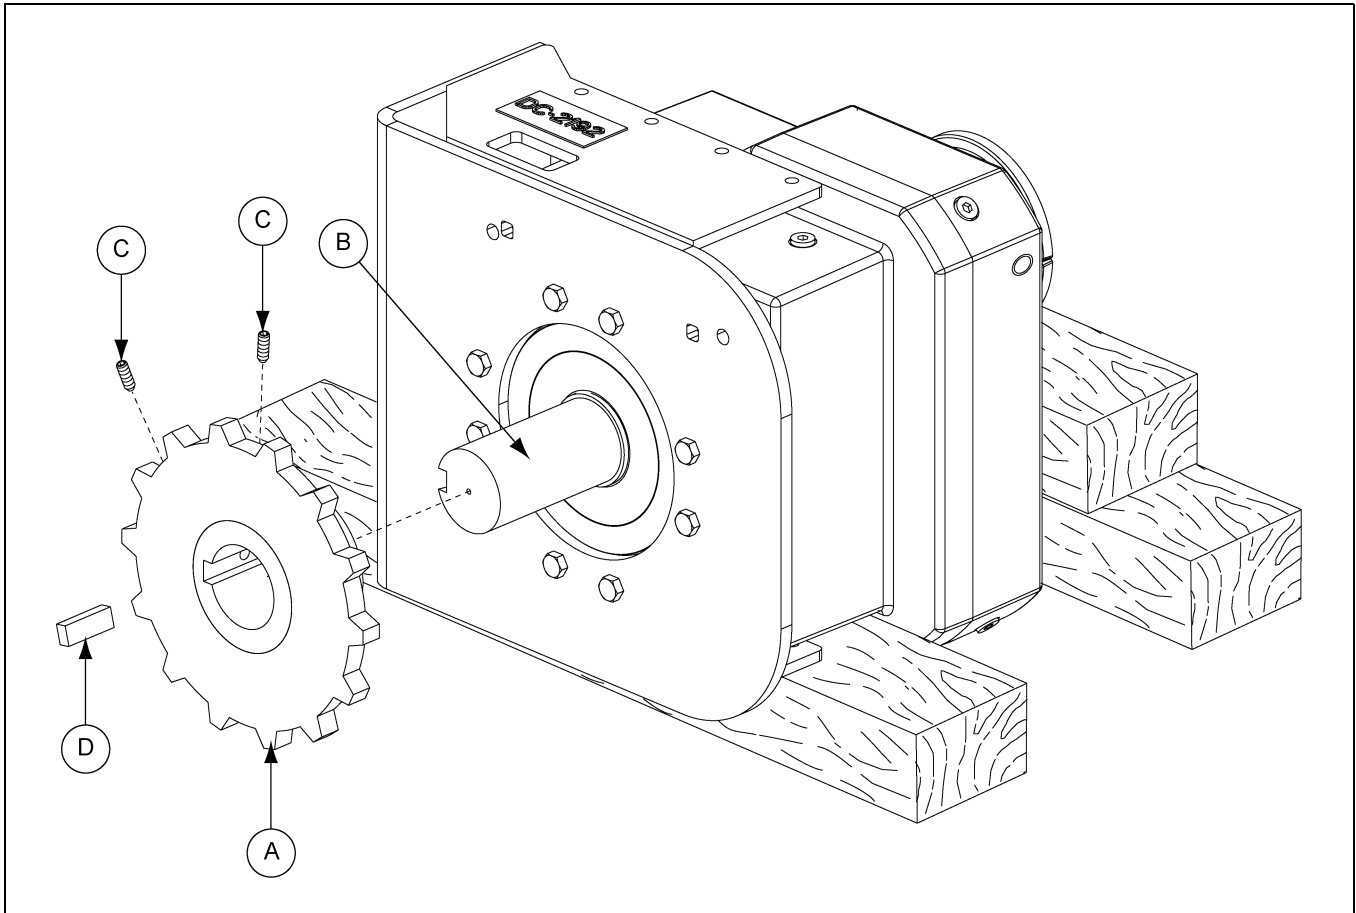

Figure 8D
1. Install the key (D) to the gearbox shaft (B). (See Figure 8D.)
2. Attach gear drive sprocket (A) to gearbox shaft (B).
3. Tap gear drive sprocket (A) flush to end of gearbox shaft (B).